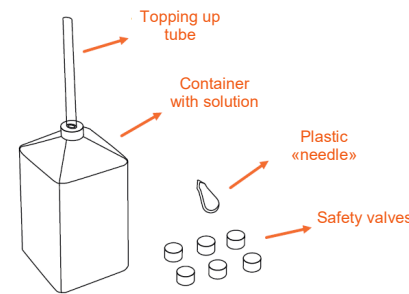

Figure 3.
Step 4. Pierce the protective membrane on the solution container with a needle and insert the topping up tube into the container (Figure 3).